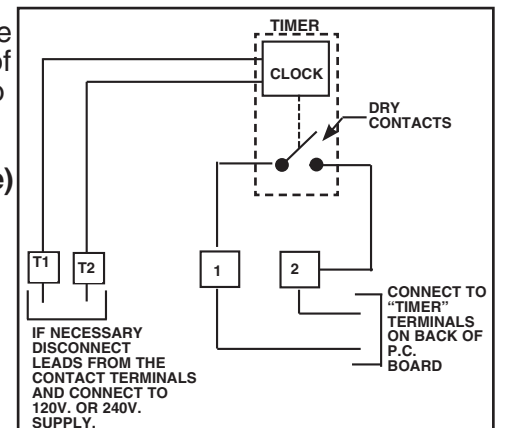

Figure 5 Time Clock
- Connect the other end of the wires to the **dry contacts (no voltage) of a suitable timer.** Important, make sure the clock supply is separate from the contacts of the timer (See figure 5).